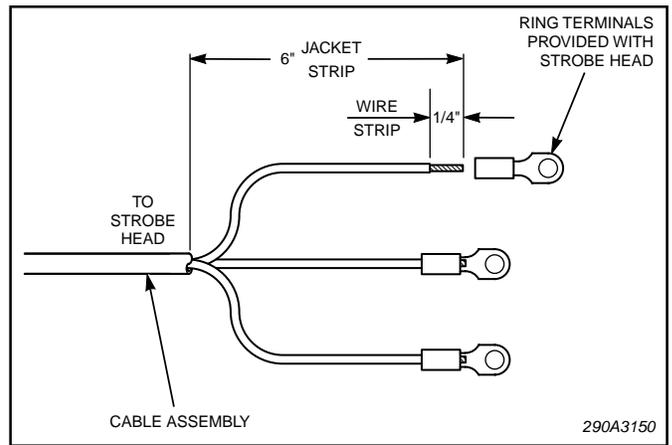

Figure 2.
G. See figure 2. Using care to avoid damaging insulation on the cable's conductors, remove approximately 6-inches of the cable's outer insulation.
H. Crimp a ring terminal on the end of each conductor as shown in figure 2.